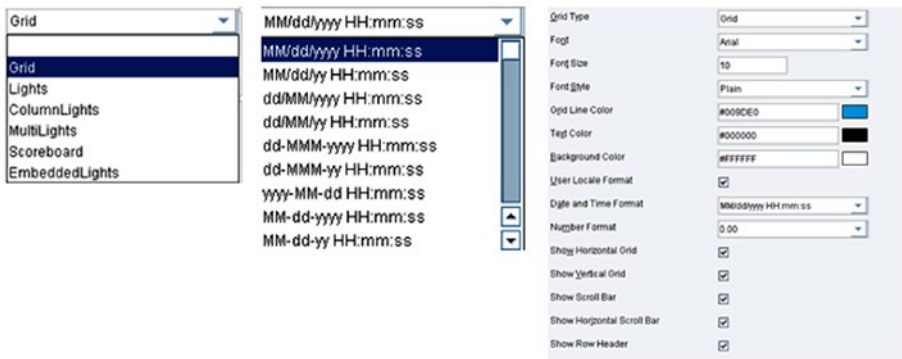

Figure 7-27. Various configurations of i5Grid
- *i5Grid Area:* Grid Area configuration configures the general properties of the display template. In Grid Area, grid type can be specified. See Figure 7-27.